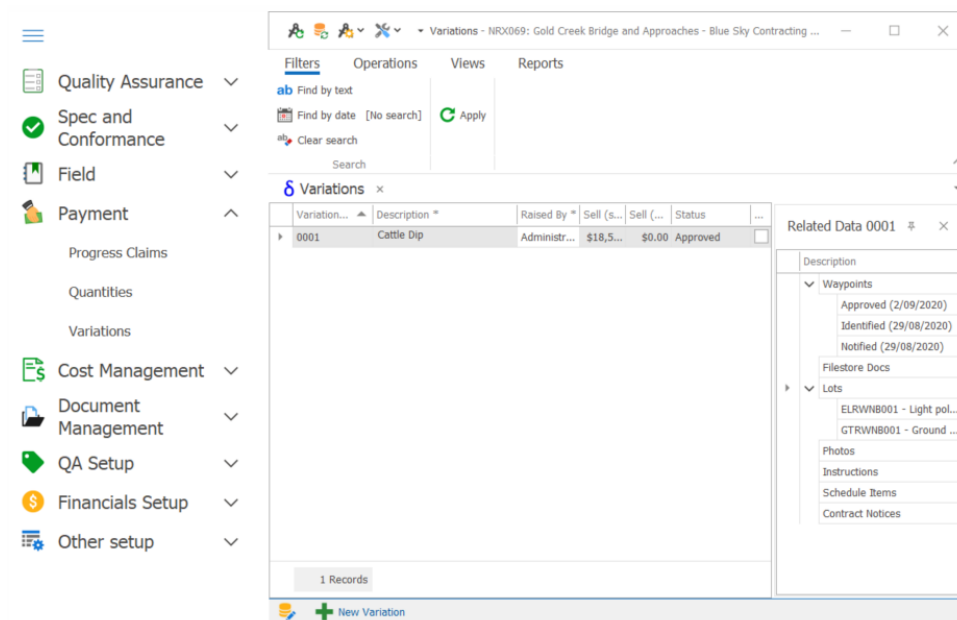

Figure 87 Variation Register showing updated Approved status
2. Select *Approved* from the Status dropdown and complete the date. Press *Update*. The Variations Register will now show the status of this Variation as Approved (Figure 87).